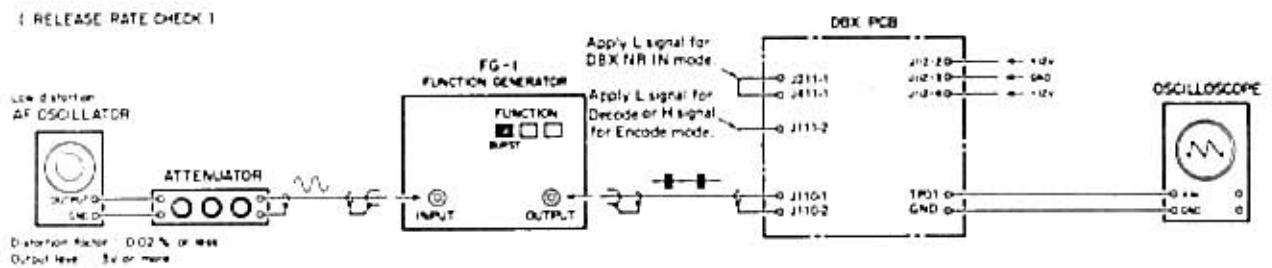

Fig. 1-6-3 Release Rate Check
E. Release Rate Check (Connection: Fig. 1-6-3)
E. Release Rate Check (Conenction: Fig. 1-6-3)